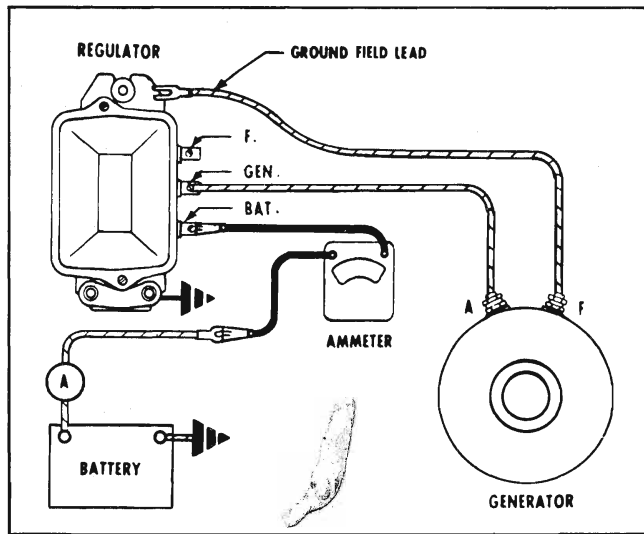

Fig. 11-21 Checking for oxidized points
3. Disconnect field lead from regulator "F" terminal and ground it on regulator base. See Fig. 11-21. If ammeter reading increases more than 2 amperes, oxidized contact points are indicated. Regulator should be removed and contact points cleaned before proceeding to any other regulator tests.